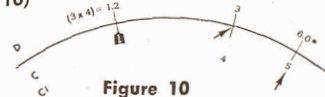

Figure 10
**Example:**  $3 \times 4 \times 5 = 60$  (Figure 10)